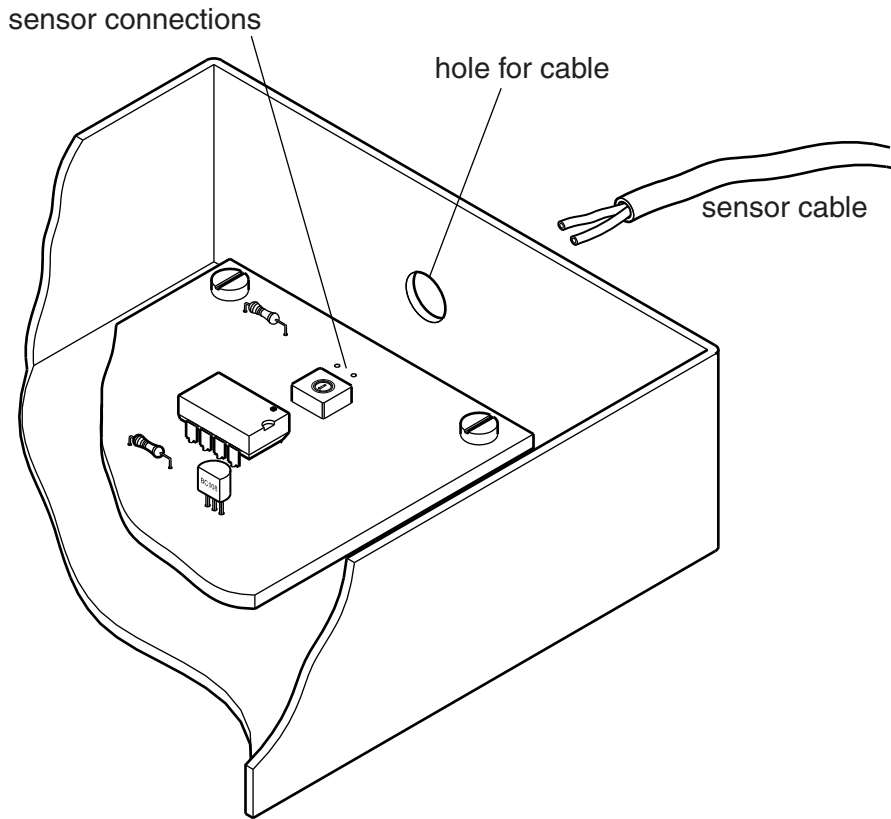

Fig. 11
- 4 (a) Fig. 11 shows a product enclosure with a hole for a sensor cable next to the circuit board. Use sketches and notes on Fig. 11 to show how the sensor cable can be securely connected. [2]